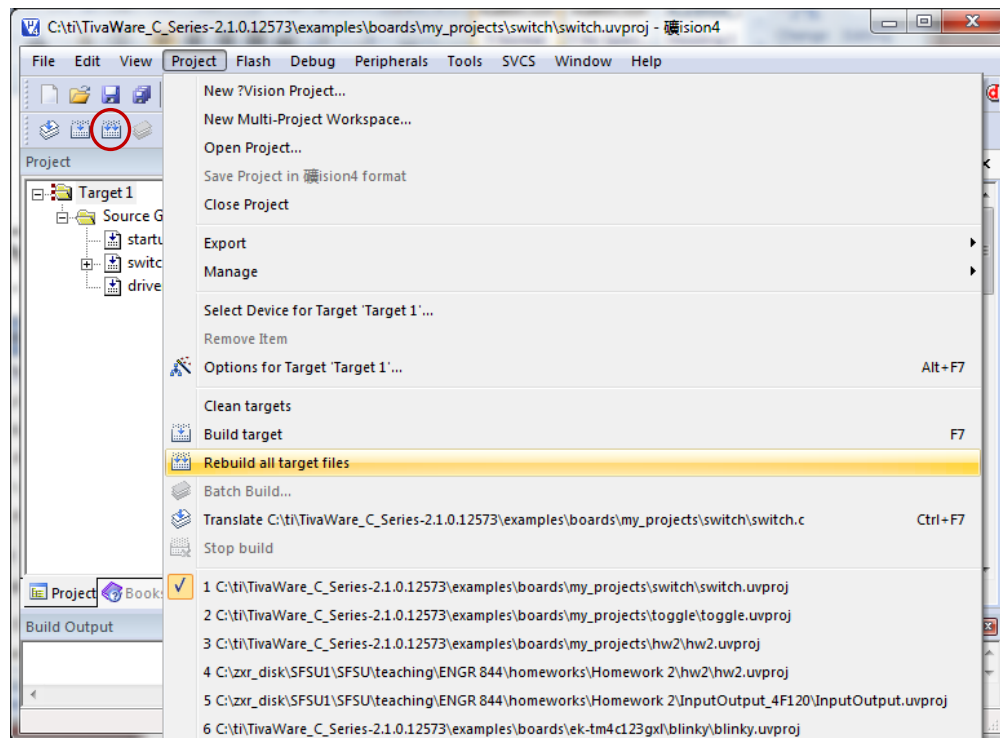

Figure 6
7. Build the project. Select Project → Rebuild all target files, or click the Rebuild all button (icon) (see Figure 6).